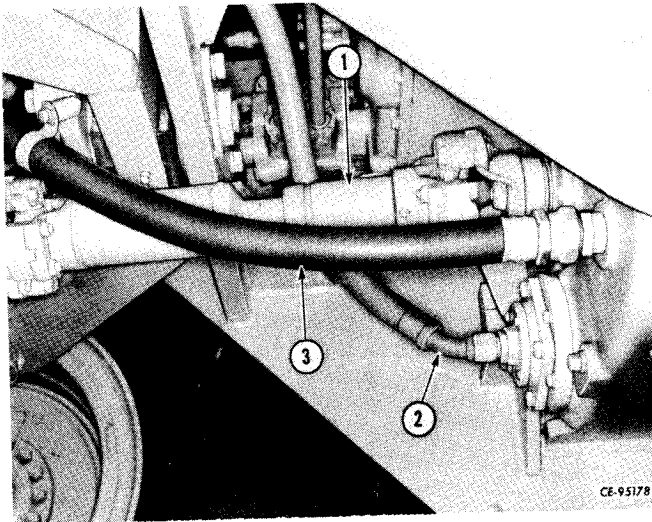

Figure 4-83
Connect transmission to rear axle drive shaft (1, Fig. 4-83) to transmission. Connect sump hose (3) and strainer hose (2).